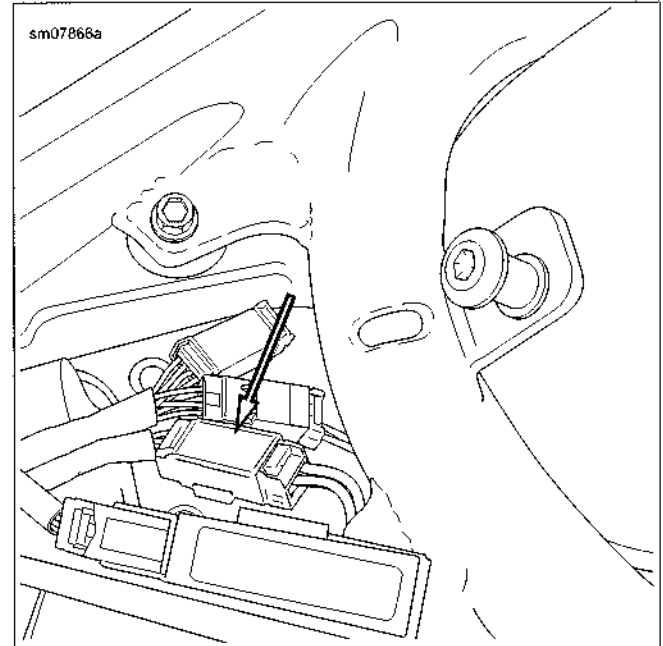

Figure 6-48. License Plate Lamp Connector [40]
6. See Figure 6-48. Unplug license plate lamp connector [40].